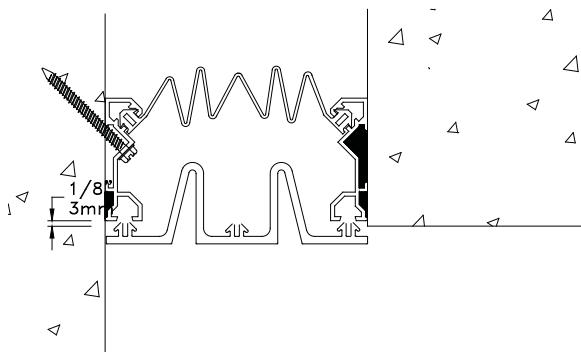

Figure 9
STEP 12. Base members for 2" through 4" joints and base members for corner wall joints (where installation using of a standard anchor is not possible) may be installed using a suitable adhesive. Suitability of the sealant/adhesive is determined by the capability of the product to bond aluminum to the substrate. Thoroughly coat the back of the aluminum base member with the adhesive (see Figure 8). If use of an adhesive is not possible, Balco, Inc. offers a joint cover system for corner installation (FCWWE, see Figure 9).